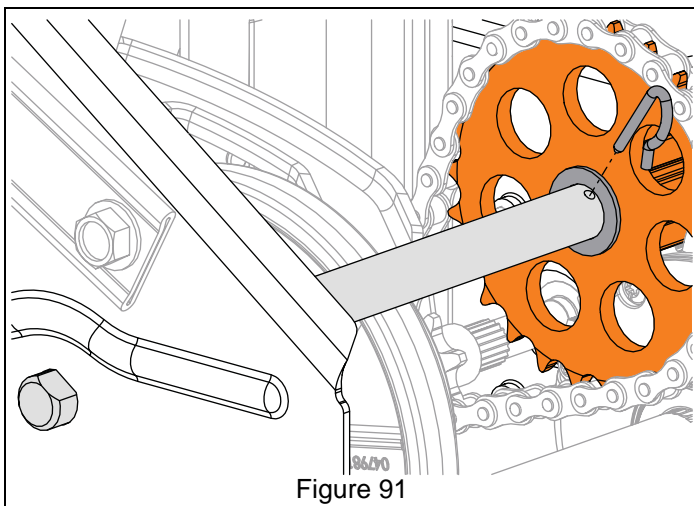

Figure 91
7. Position flat steel washer against pinion gear and reinstall spring clip. See Figure 91.